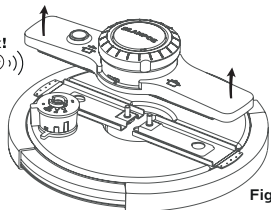

Fig. 09
- 2 - Turn the lid towards the outside and remove the control system by pulling it out of the lid (fig09)